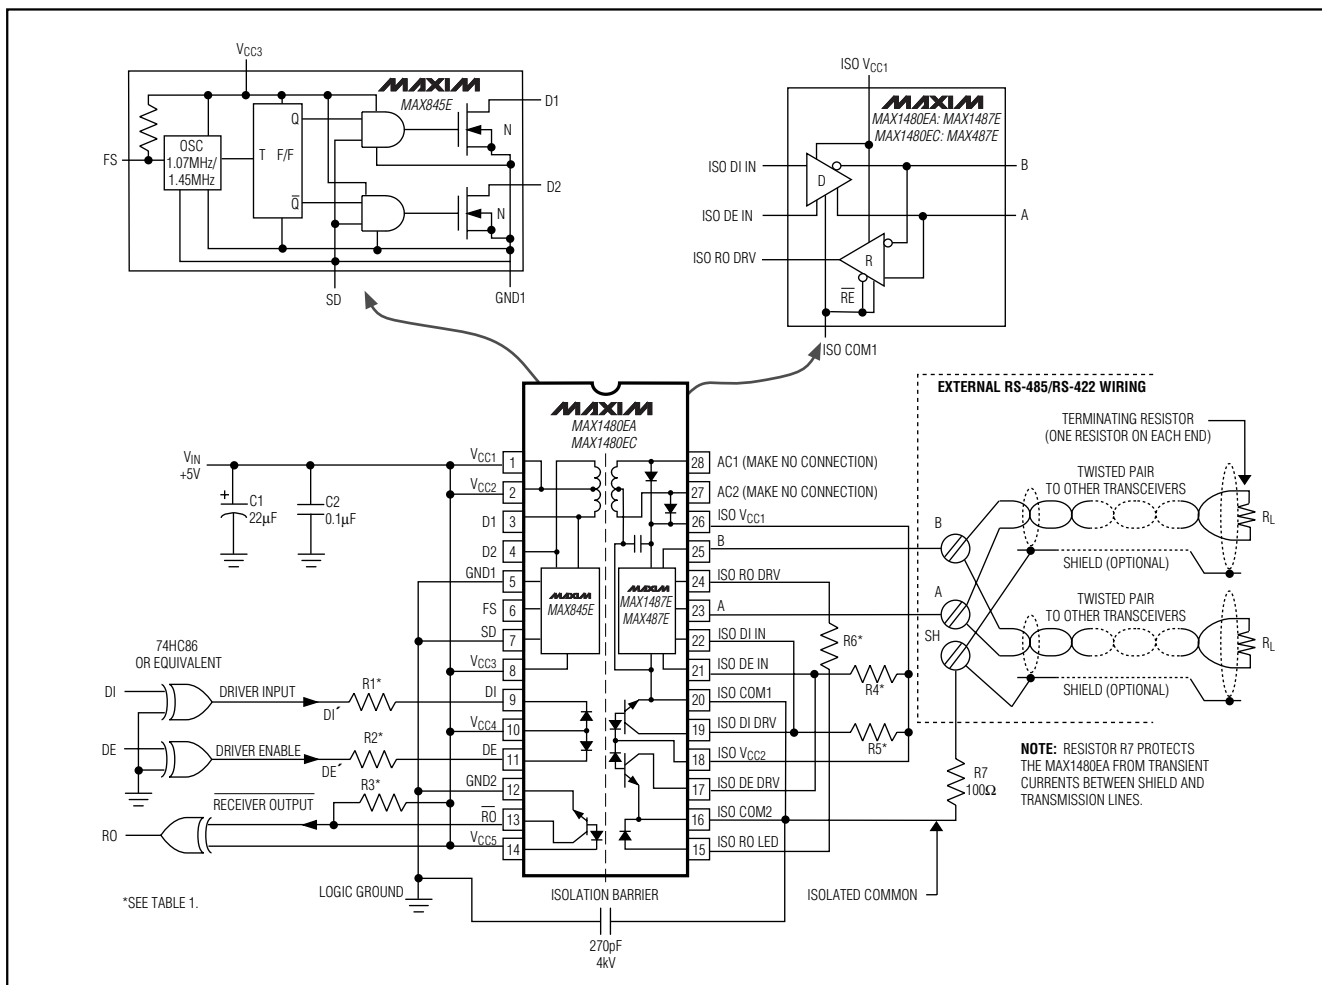
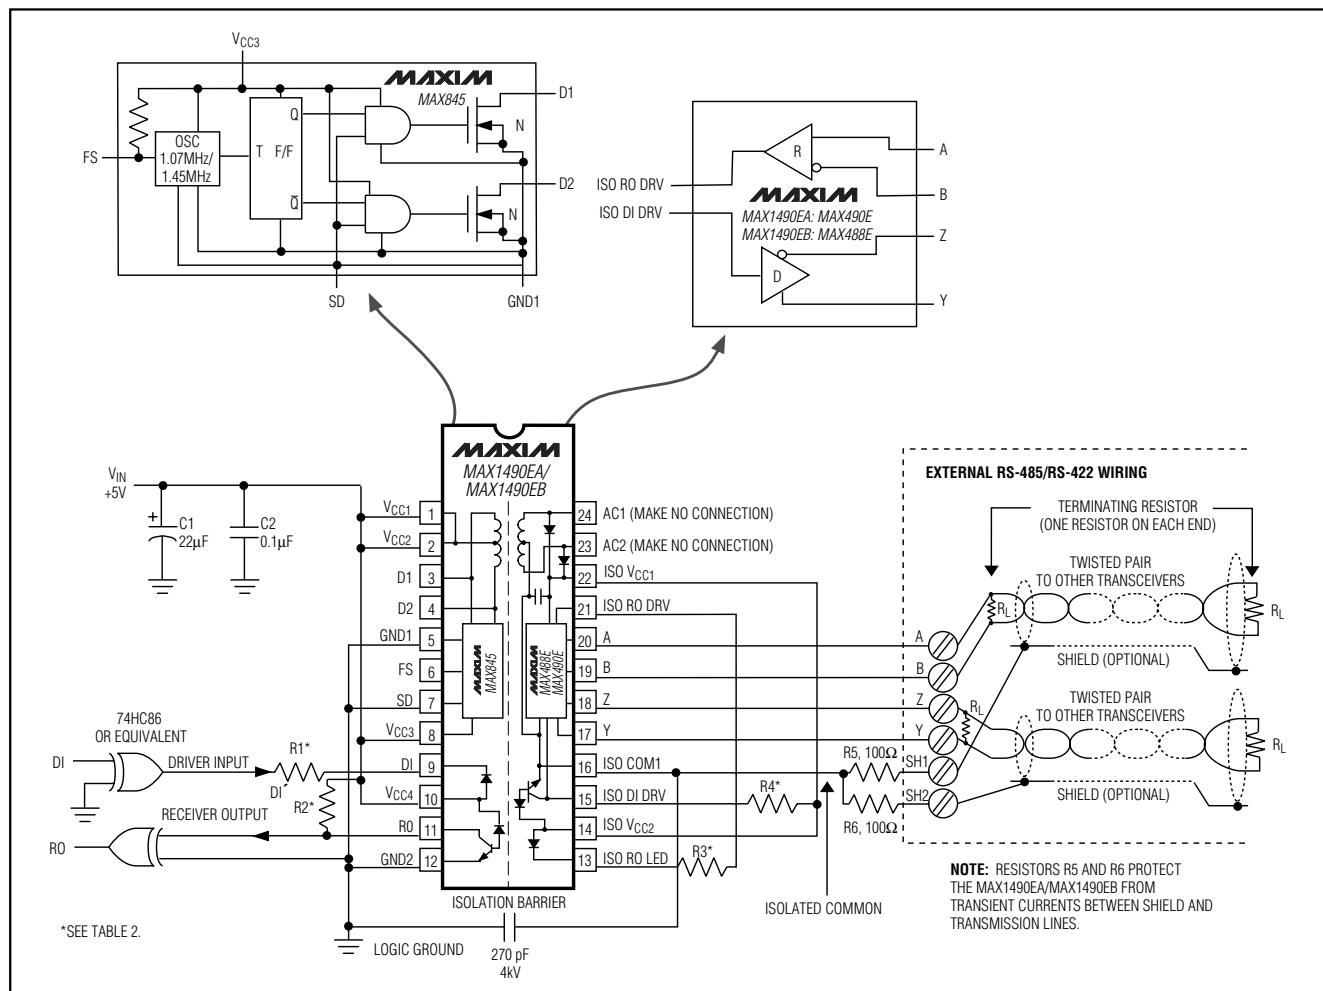

Figure 1. MAX1480EA/MAX1480EC Detailed Block Diagram and Application Circuit
Figure 2. MAX1490EA/MAX1490EB Detailed Block Diagram and Typical Application Circuit
Note 2: For DE⁺ and DI⁺ pin descriptions, see *Detailed Block Diagram and Typical Application Circuit* (Figure 1 for MAX1480EA/MAX1480EC, Figure 2 for MAX1490EA/MAX1490EB).
($V_{CC-} = +5\text{V}$, $V_{FS} = V_{CC-}$, Figures 1 and 2, $T_A = +25^\circ\text{C}$, unless otherwise noted.)
($V_{CC-} = +5V$, $V_{FS} = V_{CC-}$, Figures 1 and 2, $T_A = +25^\circ C$, unless otherwise noted.)
($V_{CC-} = +5V$, $V_{FS} = V_{CC-}$, $V_{DI} = 0$, DE toggled 0 to 5V at 5kHz, Figures 1 and 2, $T_A = +25^{\circ}C$, unless otherwise noted.)
Note: For DE⁺ and DI⁺ pin descriptions, see Detailed Block Diagram and Typical Application Circuit (Figure 1 for MAX1480EA/MAX1480EC, Figure 2 for MAX1490EA/MAX1490EB).
The MAX1480EA/MAX1480EC/MAX1490EA/MAX1490EB are complete, electrically isolated, RS-485/RS-422 data-communications interface solutions. Transceivers, optocouplers, a power driver, and a transformer in one standard 28-pin DIP package (24-pin package for the MAX1490EA/MAX1490EB) provide a complete interface. Signals and power are internally transported across the isolation barrier (Figures 1, 2). Power is transferred from the logic side (nonisolated side) to the isolated side of the barrier through a center-tapped transformer. Signals cross the barrier through high-speed optocouplers. A single +5V supply on the logic side powers both sides of the interface. The MAX1480EA/MAX1480EC offer half-duplex communications while the MAX1490EA/MAX1490EB feature full-duplex communication. The functional input/output relationships are shown in Tables 3 through 6.
Table 1. Pullup and LED Drive Resistors for Figure 1
Table 2. Pullup and LED Drive Resistors for Figure 2
* For DE' and DI' pin descriptions, see Detailed Block Diagram and Typical Application Circuit (Figure 1 for MAX1480EA/MAX1480EC, Figure 2 for MAX1490EA/MAX1490EB).
The ±15kV ESD test specifications apply only to the A, B, Y, and Z I/O pins. The test surge may be referenced to either the ISO COM or to the nonisolated GND (Figures 1 and 2).